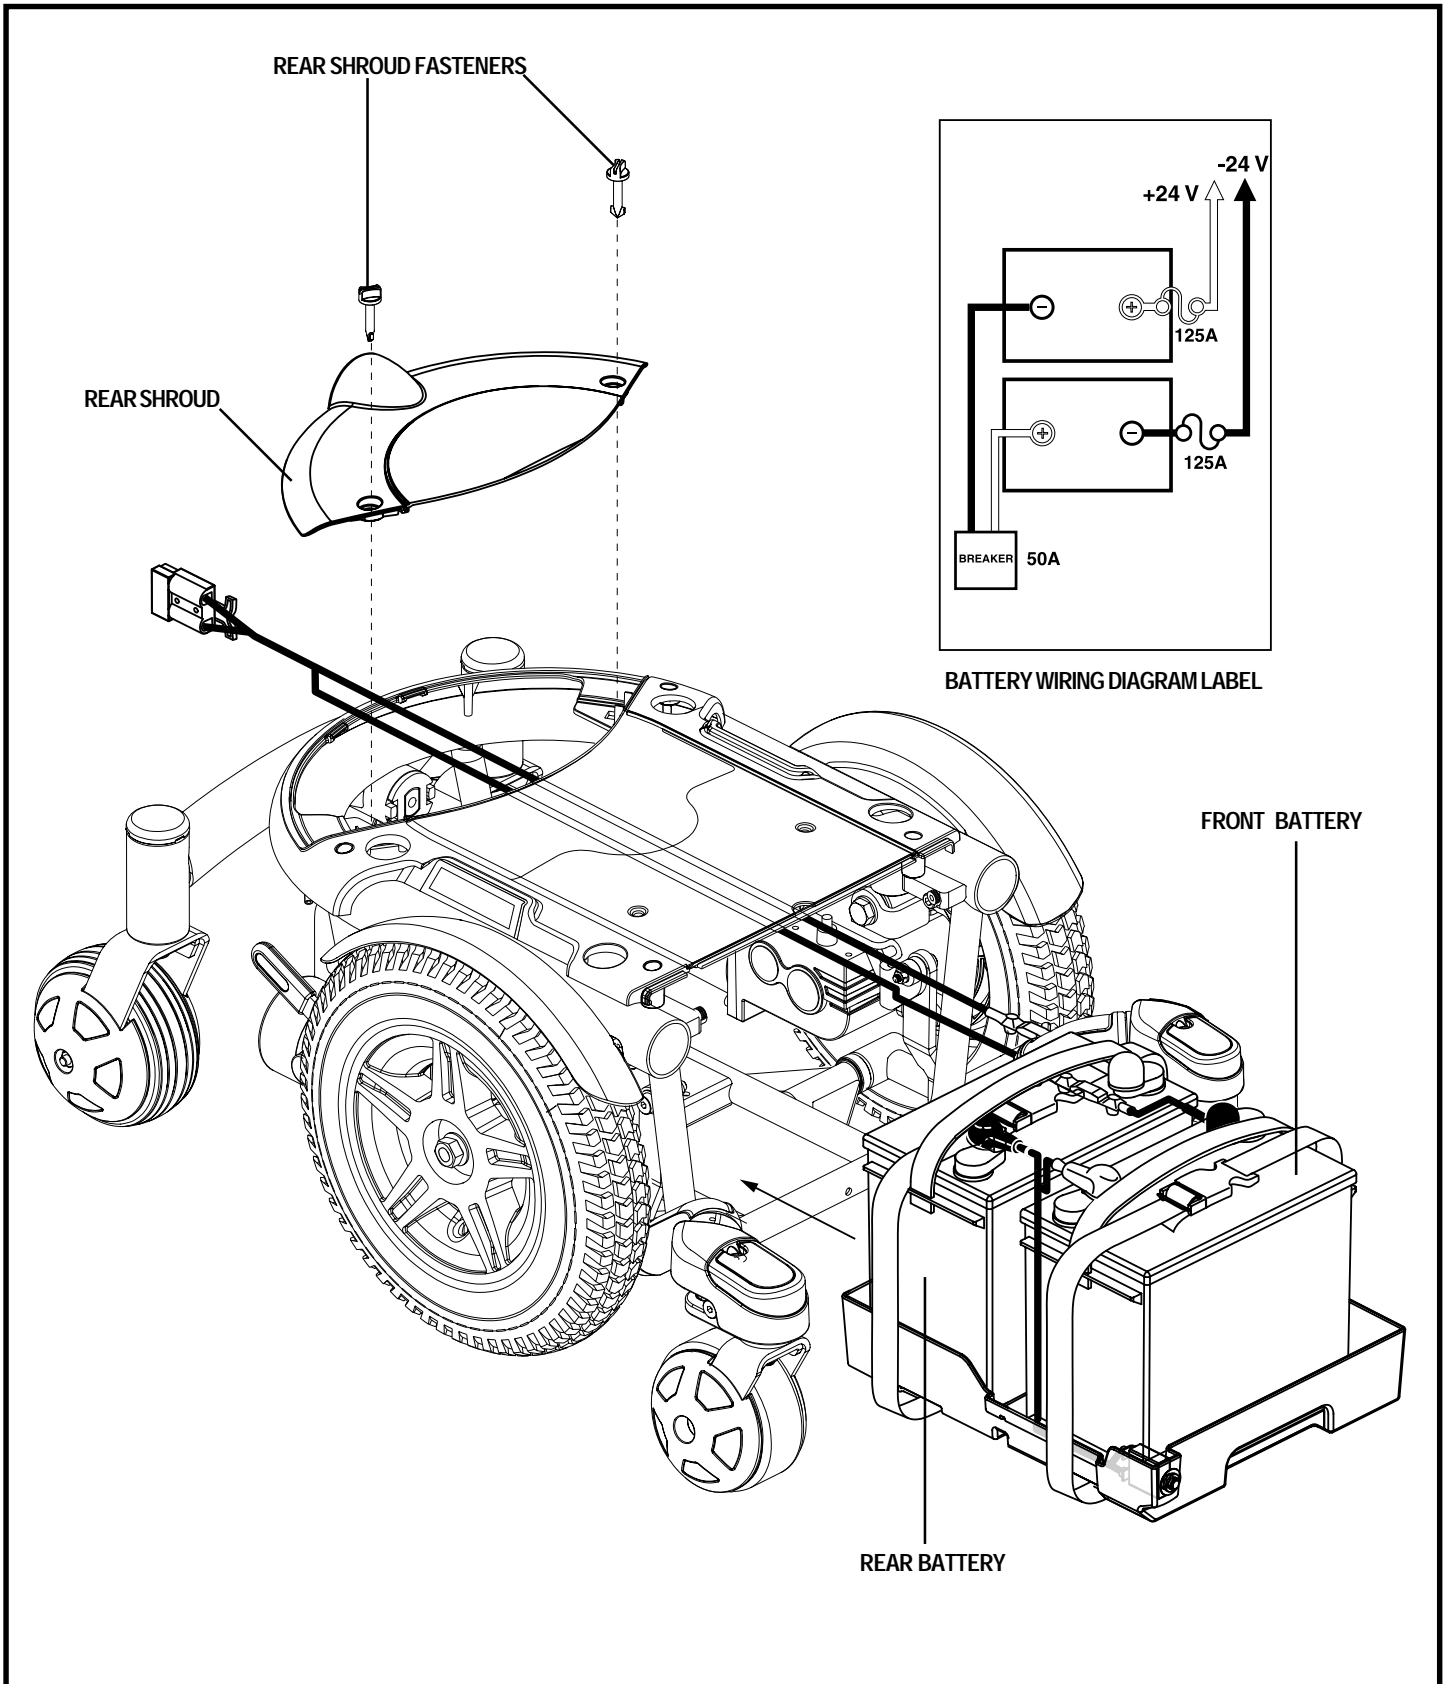

Figure 26. Battery Installation
3. Turn the rear shroud fasteners one-quarter turn in any direction. See figure 26.
13. Connect the battery harness to the front battery according to the battery wiring diagram. See figure 26.